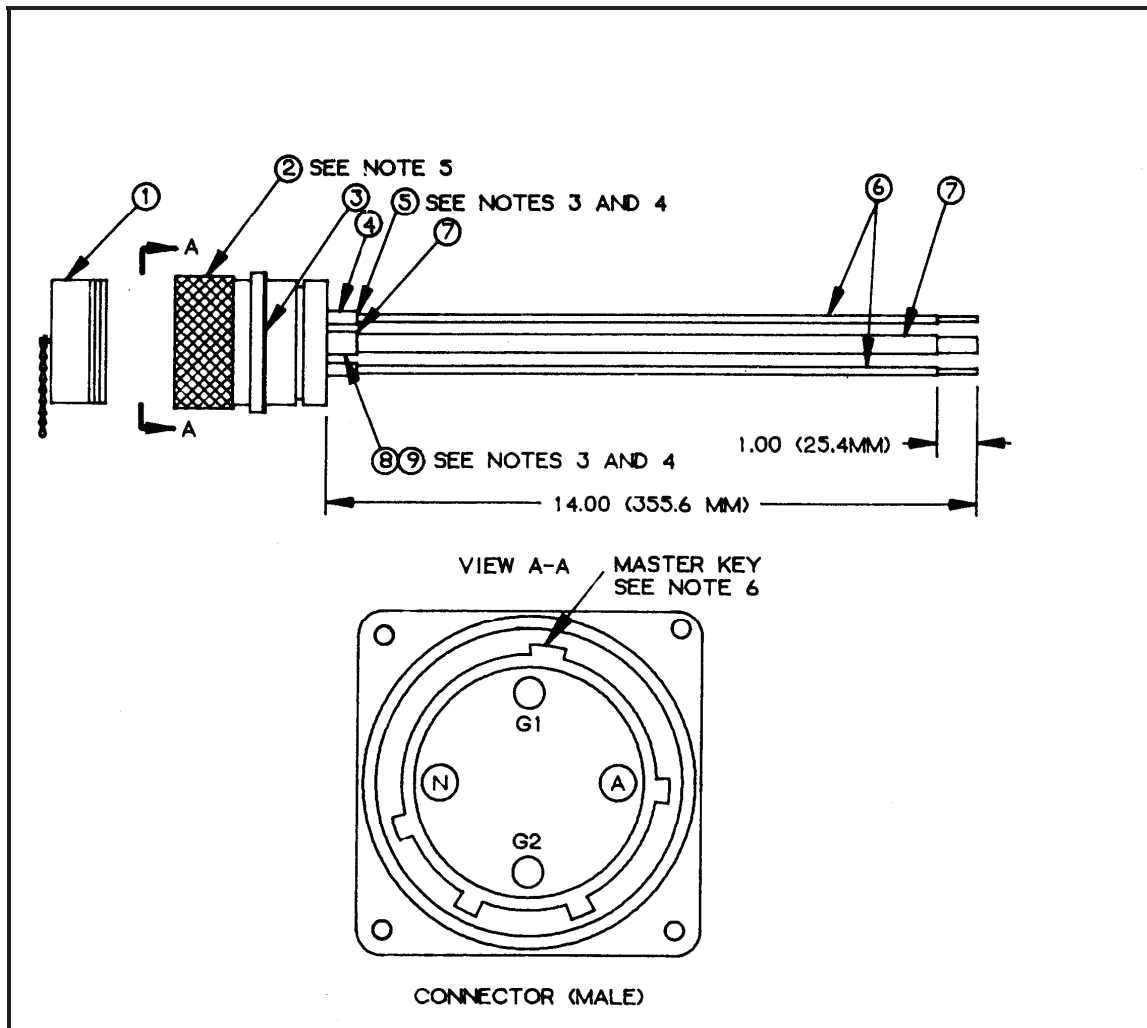

Figure F-10. Distribution Center Input Connector, M60, 60-Amp (J1)
Component Legend for Figure F-10
- c. Electrical connector (Figure F-10, Item 2) is furnished with the following: